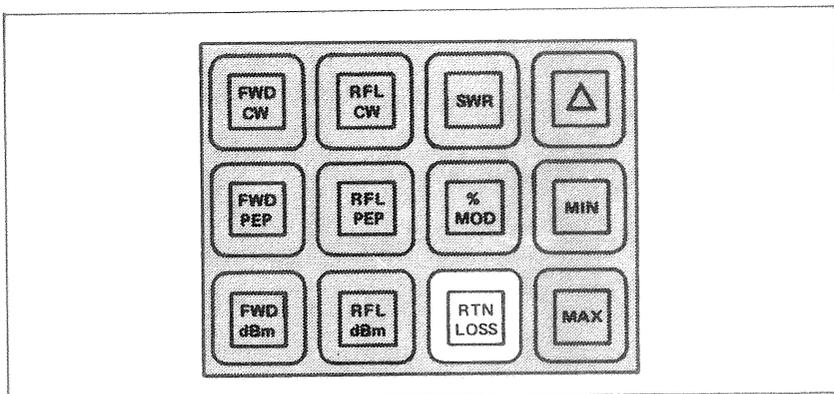

Figure 3-7. Return Loss, Insertion Loss, or Attenuation.
g. Measuring Return Loss, Insertion Loss, or Attenuation. (Figure 3-7.) The measurement of return loss is the same as that of SWR except that the result is displayed in dB. In other words a reading of 21.65 indicates that reflected power is 21.6dB down from forward power.